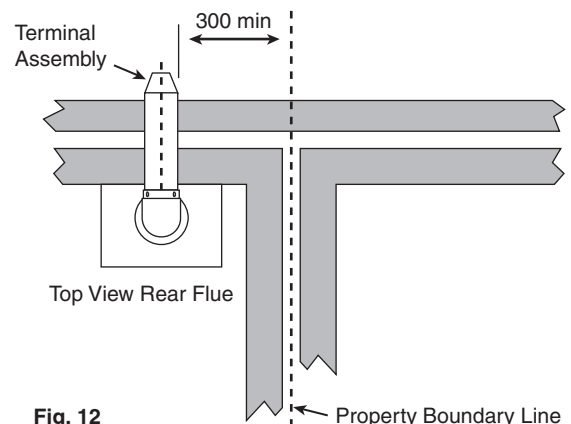

**Fig. 11** Likely flue positions requiring a flue terminal guard
**Terminal Position with Minimum Distance (Fig. 11) (mm)**